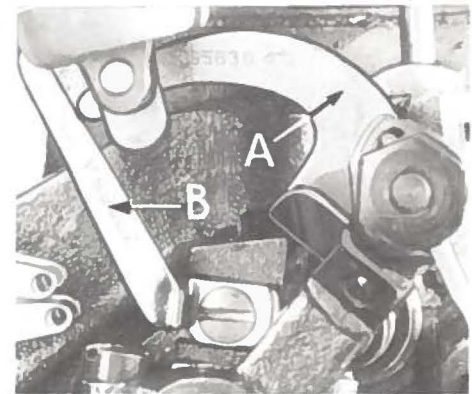

Fig. 5
If needle thread cam pull-off (A, Fig. 5) overlaps looper thread pull-off (B), separate by moving looper thread pull-off to the back. When re-tightening looper pull-off screw, be sure to take up end play in needle driving arm.